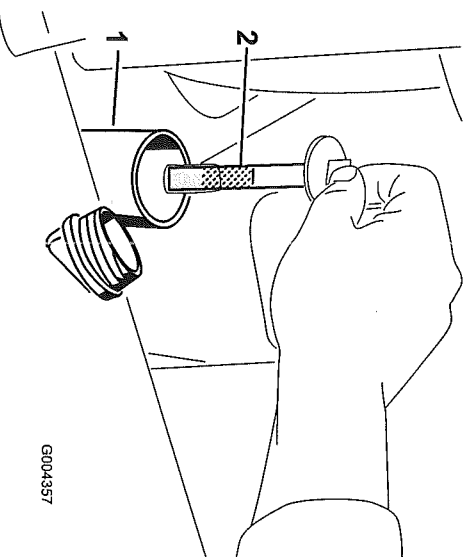

**Figure 18**
5. Clean the area around the filler neck of the hydraulic tank (Figure 18).